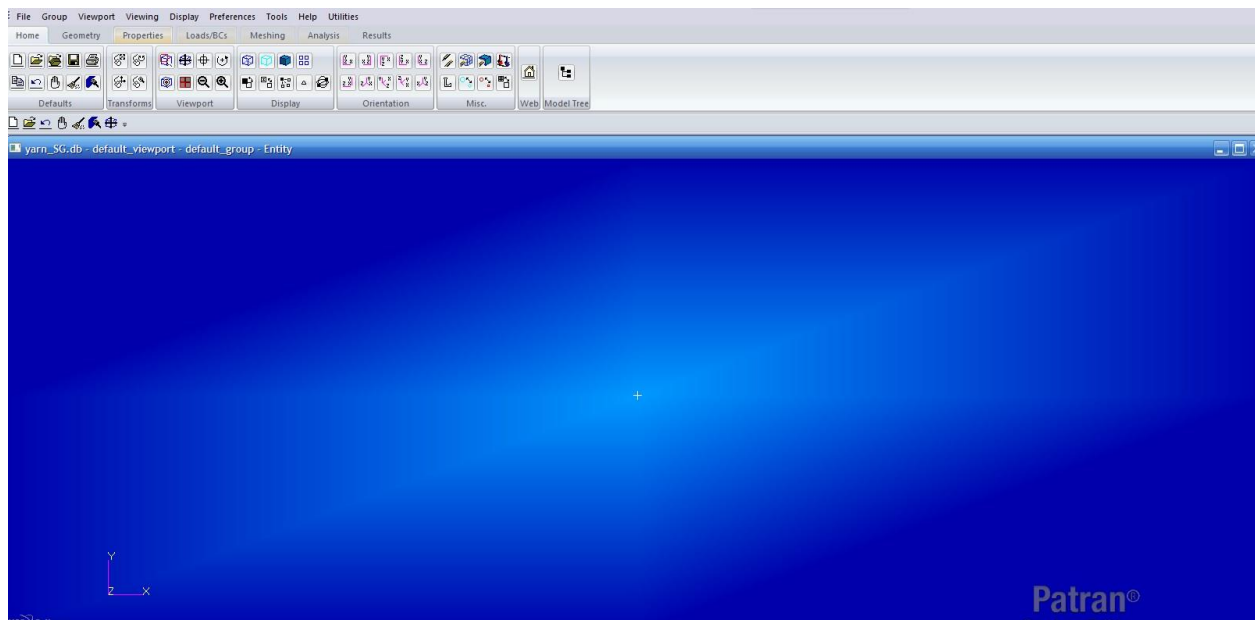
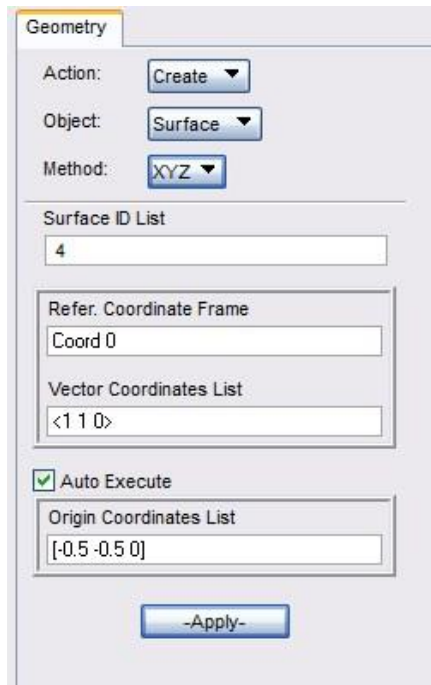
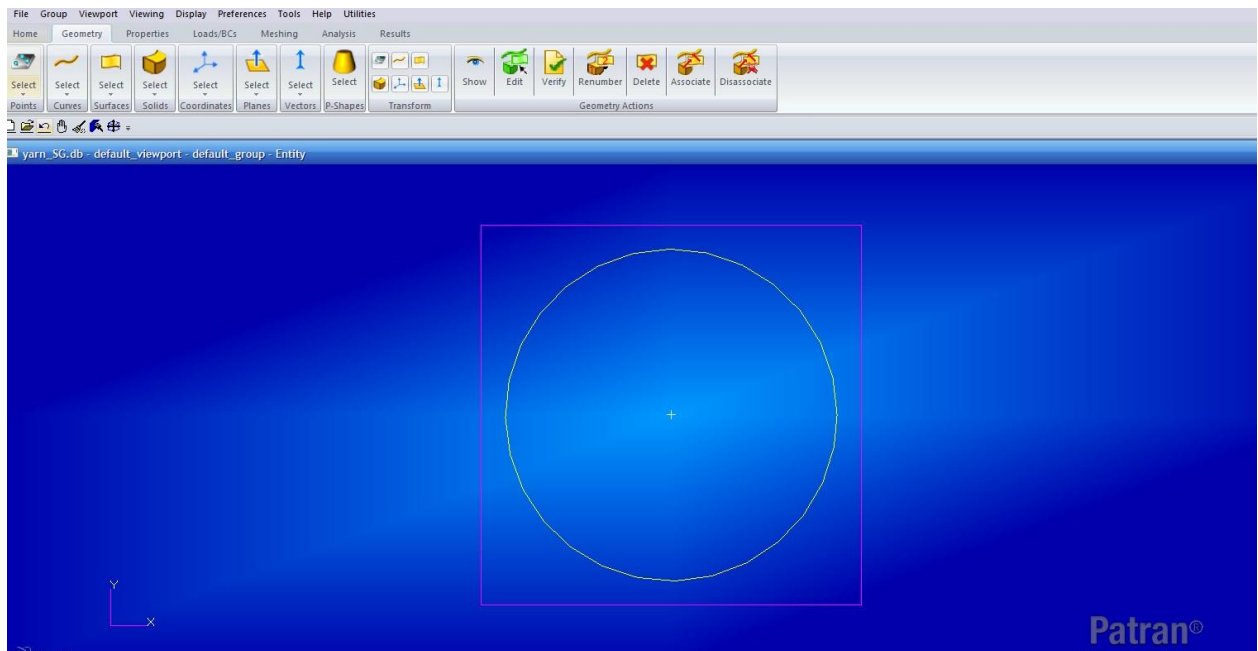

Fig. 3 New Patran database named Laminar_SG
Fig. 4 Parameters for generating matrix of the SG
Fig. 5 Generating fiber inside the matrix
Open Patran and start a new database named yarn_SG as shown in Fig.3. Click *Geometry>Surface->XYZ*, then input the parameters shown in Fig. 4 to center the SG at the origin so that the reference surface is located in the mid-plane of the structure, and click apply. Next select *Curves->2D Circle*. Input the radius of fiber circle 0.437 as the volume fraction is 0.6 and click apply as shown in Fig. 5. If we define the length of each edge is a , the radius of fiber is r and the fiber volume fraction is v_f . The relation of radius and fiber volume fraction is given in Eq. (1)